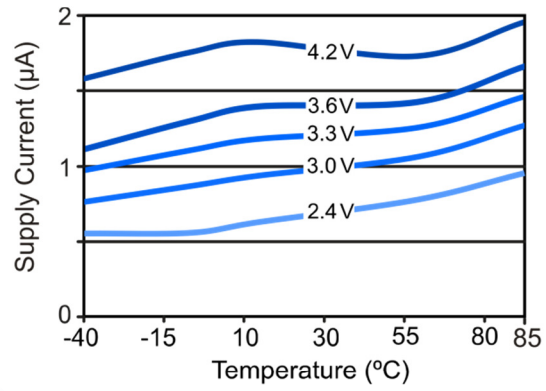

Figure 4. Supply Current versus temperature for VDD between 2.4 V and 4.2 V
- 2) Value at 25 $^{\circ}\text{C}$ , see Figure 4 for  $I_{\text{DDQ}}$  temperature dependence